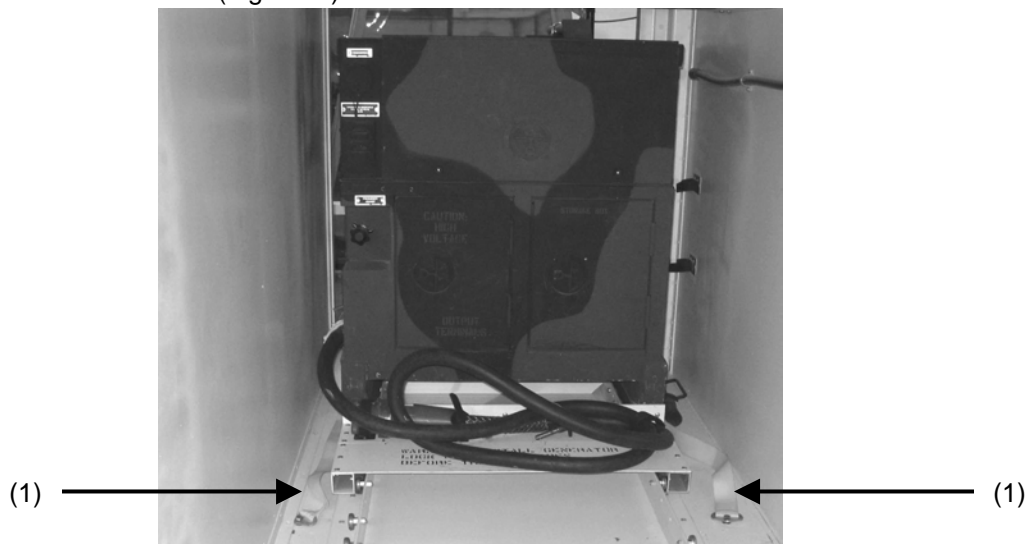

Figure 4-17. Generator in mechanical room.
- Using a 9/16" wrench (WP 0058 00, SATS Base Tool Component List), remove bolt securing safety straps (1) to mechanical room floor (Fig. 4-17).
10. Replace bolt securing safety straps (1) from generator to mechanical room floor (Fig. 4-17).